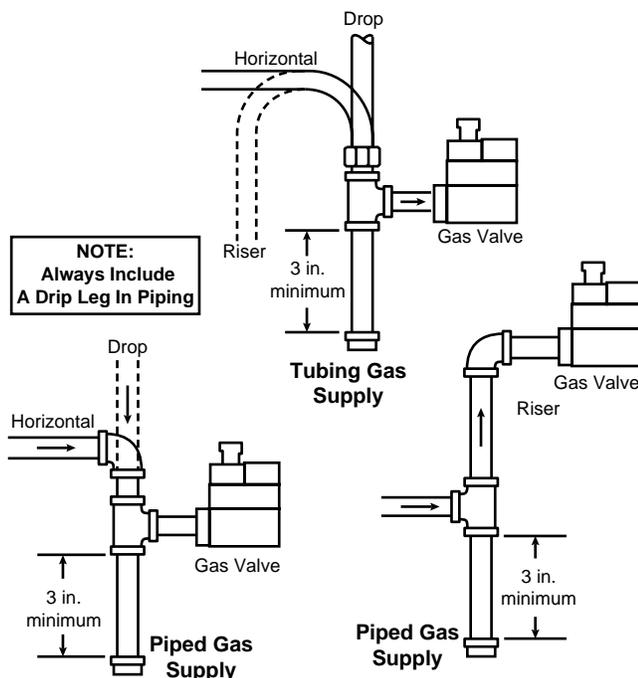

Figure 2. Typical gas valve piping
5. Apply pipe joint compound (pipe dope) or teflon tape **that is approved for all gases, only to the male threads of the pipe joints**. **DO NOT** apply compound or teflon tape to the first two threads (see fig. 2 for typical piping connections).